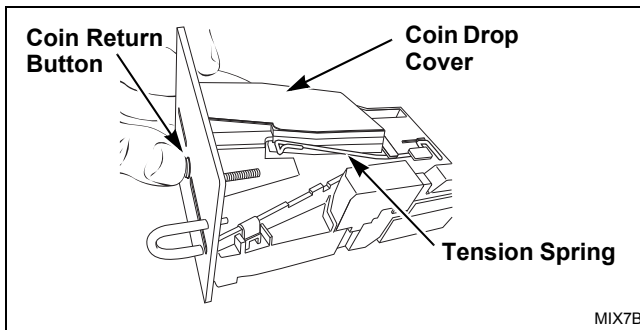
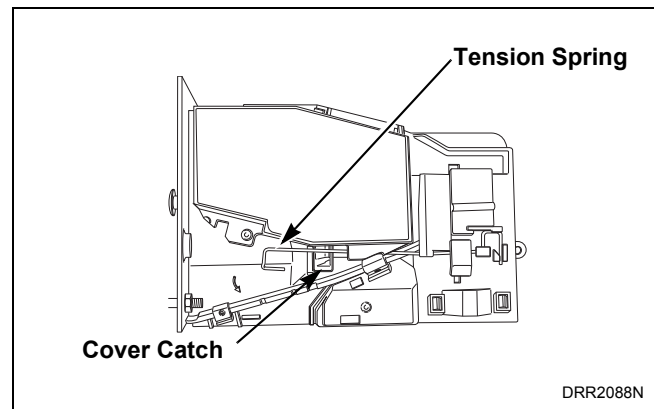
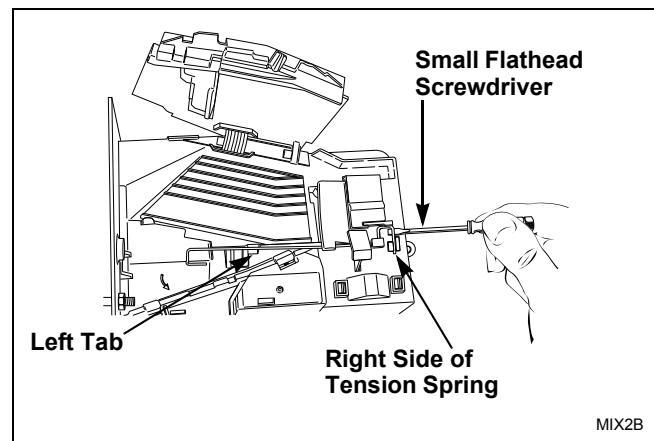

Figure 4
Figure 6
Figure 7
- (1) Clean coin drop. Refer to *Paragraph 32*.
- (2) On electronic coin drops with an old-style tension spring (shown in *Figure 4* and *Figure 6*), test and replace tension spring using the following instructions.
- (1) Push coin return button to open and close coin drop cover to clear possible coin jams. Refer to *Figure 4*.
- (1) Move tension spring downward until cover catch is free. Refer to *Figure 6*.
- (2) Open cover for coin drop.
- (3) Place a small flathead screwdriver under right side of tension spring and lift up. Refer to *Figure 7*.
- (4) Use screwdriver to move spring approximately 3 mm to left.
- (5) Lift spring over left tab. Refer to *Figure 7*.
- (13) Lift spring gently to place in position under left tab.
(14) Push spring to right until it snaps into position. Refer to *Figure 7*.
(15) Close coin drop cover.
(16) Move tension spring over cover catch. Refer to *Figure 6*.